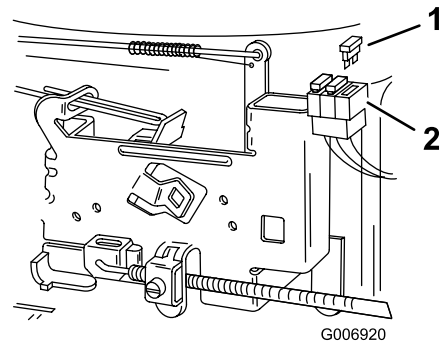

Figure 29
- Pull up on the fuse (Figure 29) to remove it from the socket.